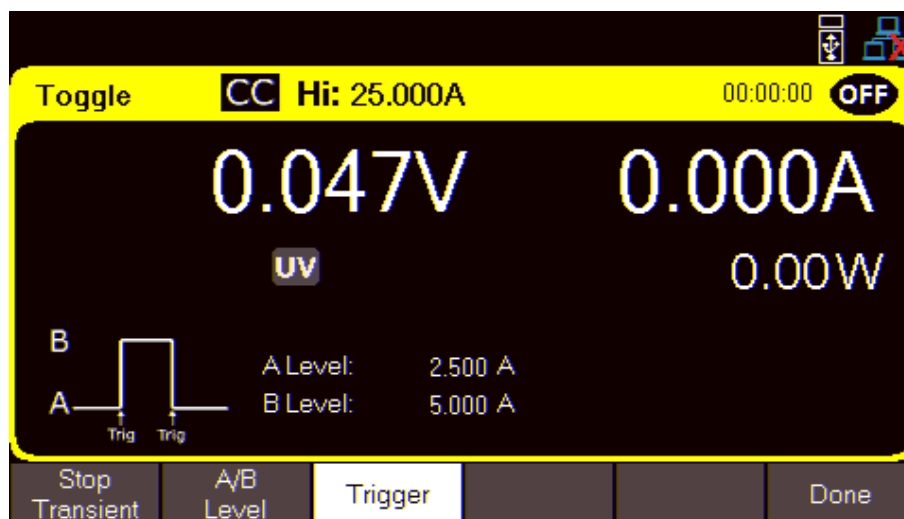

Figure 6.8 Hold Trigger Available
- **Hold**: The trigger source is the press of the trigger key, either assigned to a programmable key or appears as a softkey when the trigger function becomes available (see Figure 6.8).